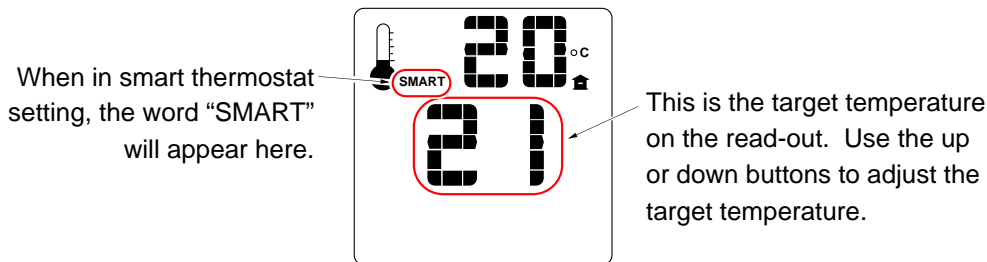

Figure 6
- SMART THERMOSTAT** – While in smart thermostat, the transmitter will control the burner to achieve the target temperature (see Figure 6 below). Flame height will be adjusted up or down to allow operation without turning the burner on and off (also called "smart modulation"). To adjust the target temperature, press the up and down buttons until a suitable temperature is achieved.